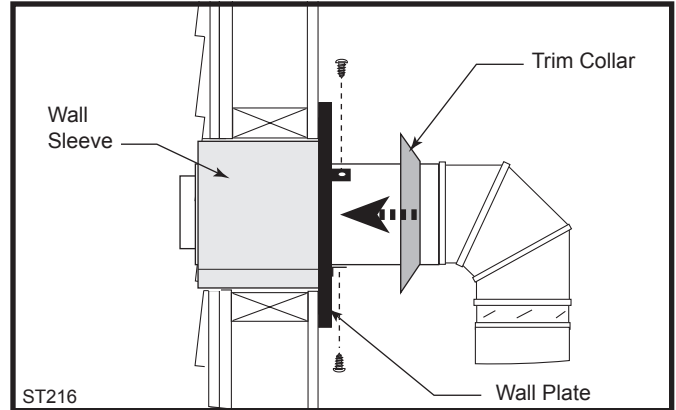

**Fig. 24** Determine the vertical pipe length.
**4. For MHSC Vent Pipe only:** If necessary, measure to determine the vertical length (X) of pipe required from the adapter pipe to the wall cutout centerline, including a 2" (51mm) overlap at the joint. (Fig. 24) use a hacksaw or tin snips to trim the pipe as needed.